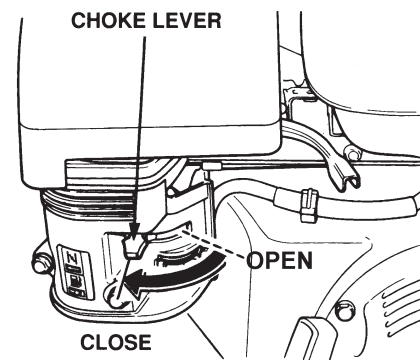

Figure 18. Engine Choke Lever
3. Place the ***choke lever*** (Figure 18) in the "CLOSED" position if starting a ***cold engine***.